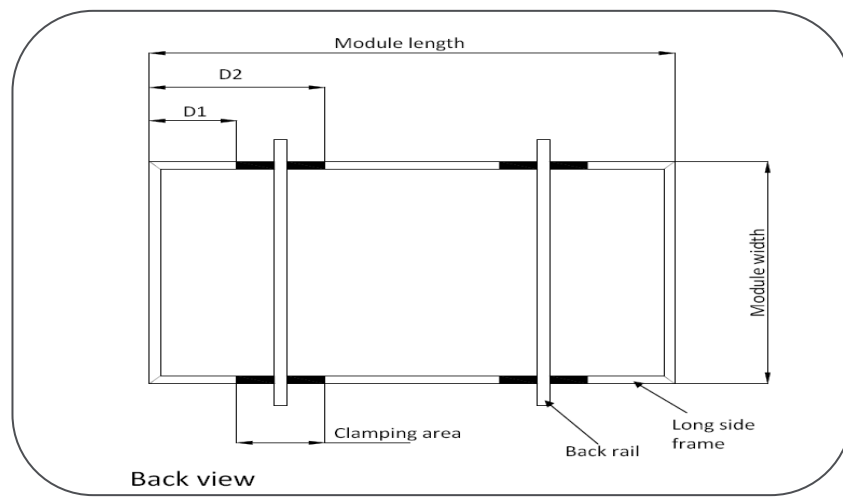

Figure 2 Long rail mounting clamp range (D1 and D2)
- Clamp on the long side of the frame (see Figure 2, measurements below)